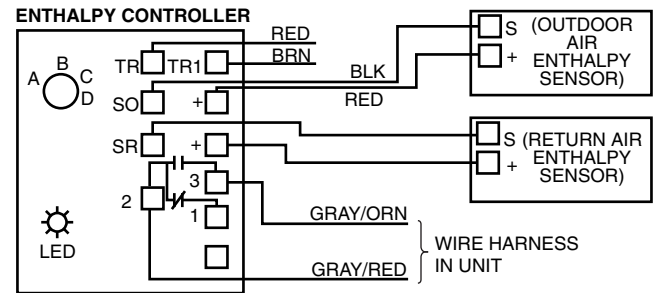

Fig. 26 — Outdoor and Return Air Enthalpy Sensor Wiring
To wire the return air enthalpy sensor, perform the following (see Fig. 26):
2. At the enthalpy control remove the factory-installed resistor from the (SR) and (+) terminals.
3. Connect the field-supplied RED wire to (+) spade connector on the return air enthalpy sensor and the (SR+) terminal on the enthalpy controller. Connect the BLK wire to (S) spade connector on the return air enthalpy sensor and the (SR) terminal on the enthalpy controller. (See Fig. 26.)